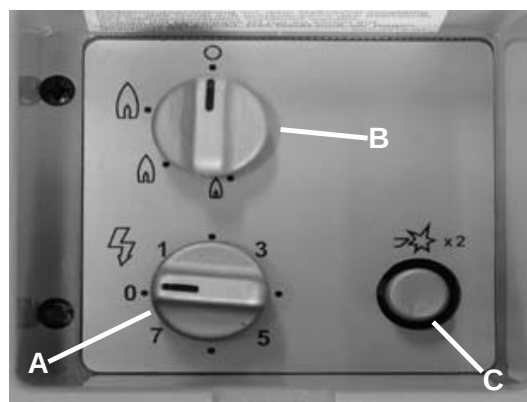

Figure 5.
After opening the valve of the gas cylinder and checking for gas leaks (Figure 5) turn thermostat (B) to maximum position, press down the gas safety valve and at the same time, press the piezo-ignition button (C) several times in quick succession. If the flame does not ignite, repeat the process. (Air in the appliance gas line prior to connection to the gas cylinder must be purged. Only then can the gas be lit.)